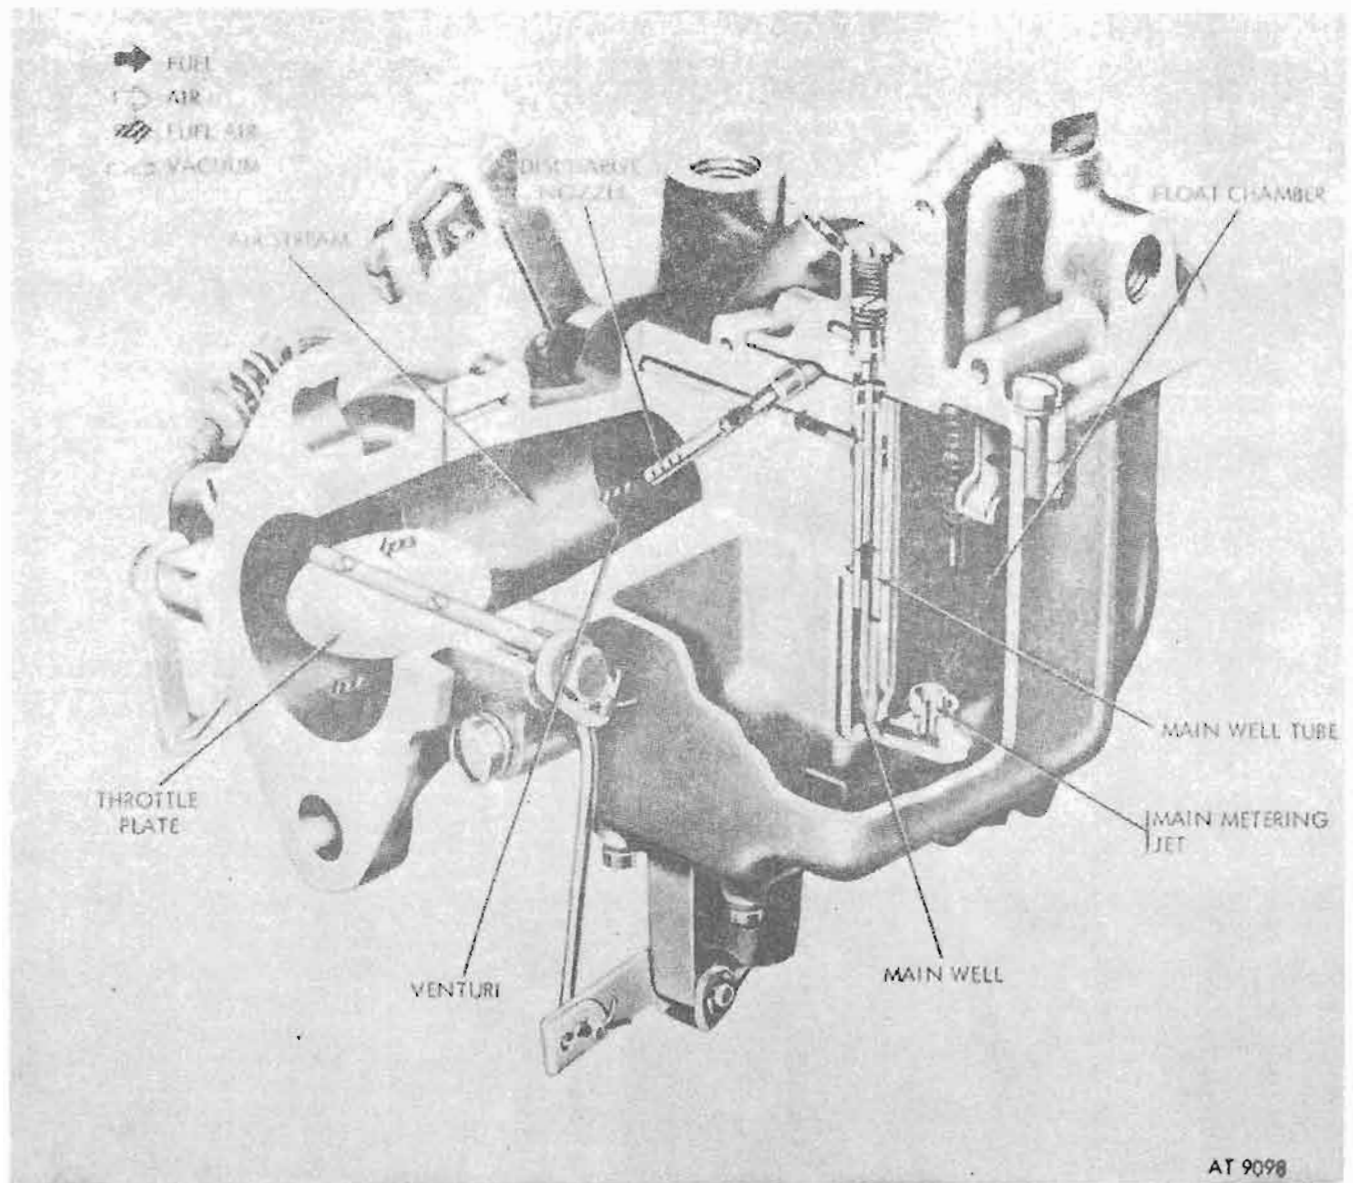

Figure 5-2. Main metering system.
b. Main Metering System (fig. 5-2). Purpose of the main metering system is to inject sufficient fuel into the air stream to provide correct fuel-air ratio for normal engine operating conditions. Fuel from the float chamber flows through the main metering jet, which limits the amount of fuel passing through to the main well. Gravity forces fuel to fill the main well to the level allowed by the float; vacuum then pulls the fuel from main well to main well tube. Vacuum also determines the amount of fuel pulled from the main well tube through a passage to the discharge nozzle. A high speed bleed vents the main tube and is designed to introduce air to the main metering system, thus preventing too-rich mixtures. Introducing air to the fuel at this point also serves to provide a mixture of fuel and air which vaporized more readily. A restriction in the high-speed bleed passage limits the amount of air passing through, preventing an overlean mixture. Position of the throttle plate controls the fuel-air mixture passing through the venturi, thus regulating speed and power output of the engine in direct relation to accelerator pedal or hand throttle movement.